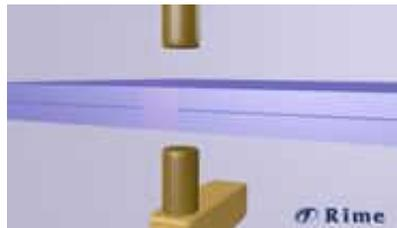

Figure Weld-20: removing electrode in spot welding process
5. The workpiece are tightly joined. The time during which the electrical current must flow through the workpieces varies, depending on the material and workpiece thickness. As in figure Weld-20, if the parts are tightly joined, the electrodes are removed in order to repeat the process at the next welding point.